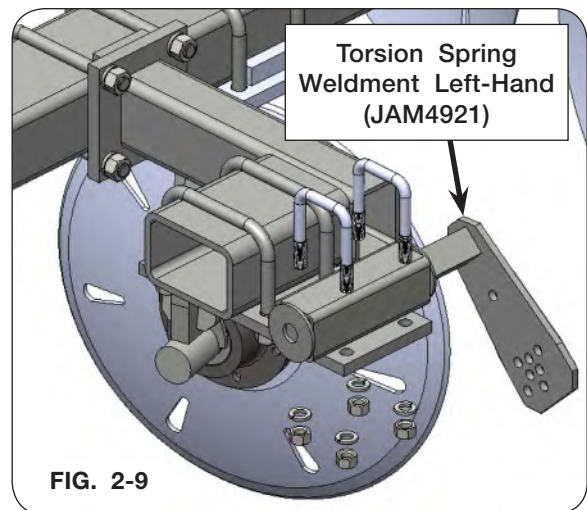
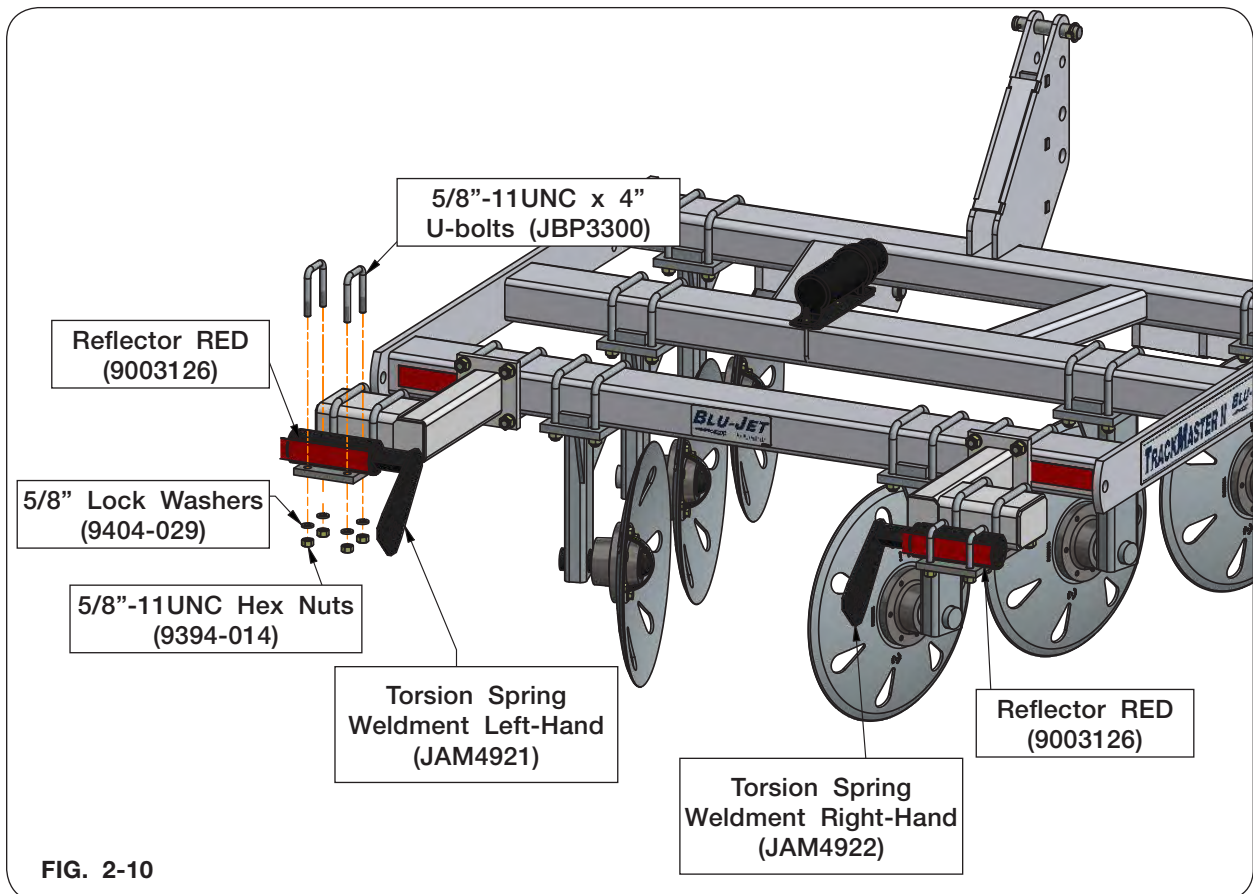

FIG. 2-9
FIG. 2-10
4. Attach the reflectors, RED (9003126), to the torsion spring weldments (JAM4921 & JAM4922). (FIG. 2-10)
5. Loosely attach the torsion spring weldment left-hand (JAM4921) to the top of the mounting plate (JAM7637) on the left-hand side with 5/8"-11UNC x 4" U-bolts (JBP3300), 5/8" lock washers (9404-029), and 5/8"-11UNC hex nuts (9394-014). (FIG. 2-9 & FIG. 2-10)
6. Loosely attach the torsion spring weldment right-hand (JAM4922) to the top of the mounting plate (JAM7637) on the right-hand side with 5/8"-11UNC x 4" U-bolts (JBP3300), 5/8" lock washers (9404-029), and 5/8"-11UNC hex nuts (9394-014). (FIG. 2-10)